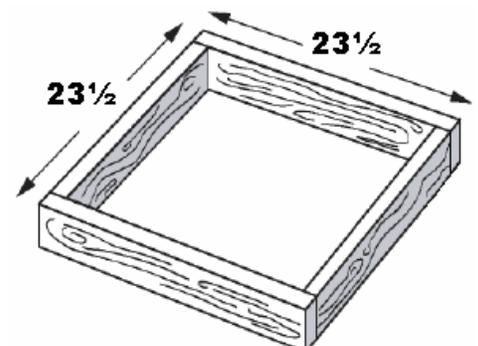

Fig. 1 - Building the Curb Box
Step 5 - Building the Curb Box: Build a 23 1/2" x 23 1/2" curb box using a weather treated 2x4 stud (see Fig. 1). The curb box should easily fit inside the curb-mount flashing of the attic vent base. Alternatively, a pre-manufactured curb flashing may be used for your specific roofing application if available. Contact your local roofing supply store for more information on pre-manufactured curb flashings that may be appropriate for your roofing application.